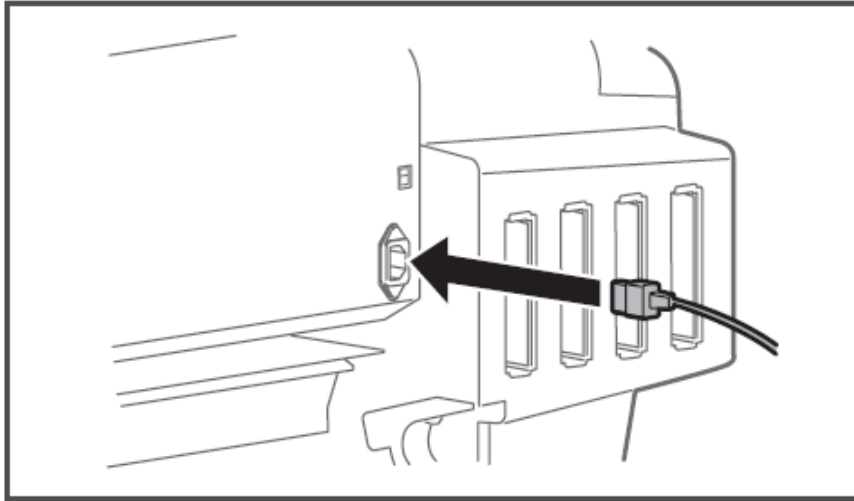

Figure 23
4. Connect the power cable to the printer. See Figure 23.